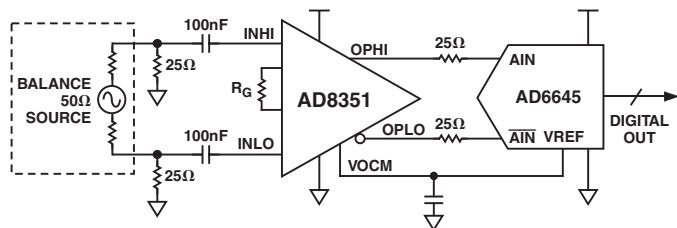

Figure 7. ADC Driving Application Using Differential Input
The circuit in Figure 7 represents a simplified front end of the AD8351 driving the AD6645, which is a 14-bit, 105 MSPS A/D converter. For optimum performance, the AD6645 and the AD8351 are driven differentially. The resistors R1 and R2 present a 50 Ω differential input impedance to the source with R3 and R4 providing isolation from the A/D input. The gain setting resistor for the AD8351 is R_G . The AD6645 presents a 1 k Ω differential load to the AD8351 and requires a 2.2 V p-p differential signal between AIN and $\overline{\text{AIN}}$ for a full-scale output. This AD8351 circuit then provides the gain, isolation, and source matching for the AD6645. The AD8351 also provides a balanced input, not provided by the balun, to the AD6645, which is essential for second-order cancellation. The signal generator is bipolar, centered around ground. Connecting the VOVM pin (10) of the AD8351 to the VREF pin of the AD6645 sets the common-mode output voltage of the AD8351 at 2.4 V. This voltage is bypassed with a 0.1 μF capacitor. Increasing the gain of the AD8351 will increase the system noise and thus decrease the SNR but will not significantly affect the distortion. The circuit in Figure 7 can provide SFDR performance of better than -90 dBc with a 10 MHz input and -80 dBc with a 70 MHz input at a gain of 10 dB.